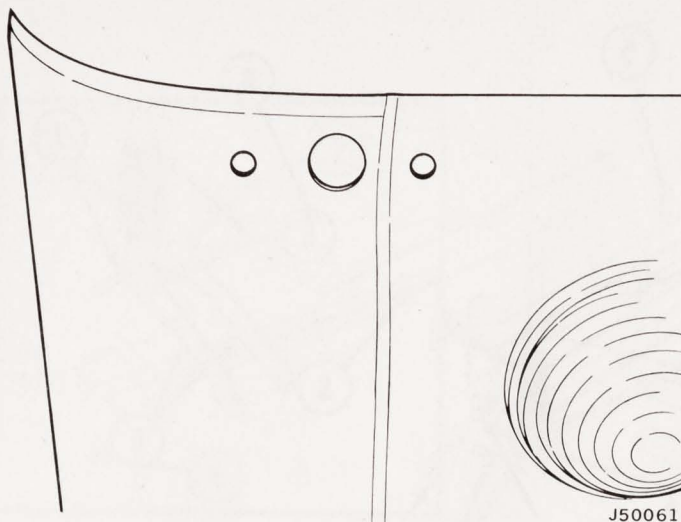

Fig. 1-11 Auxilliary Taillamp Hole Location
(1) Locate, mark, and drill holes in rear panel (fig. 1-11).